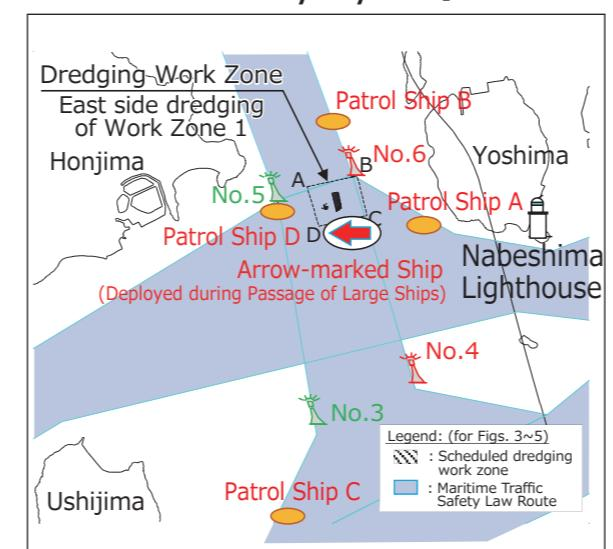

Fig. 3. Positions of Patrol Ships in Work Zone 1
(図3) 1工区警戒船等配置例
- (2) The marine area around the working zones will be stationed with four patrol ships during the duration of the dredging work.
- (3) When a large ship enters the marine area around the working zones, one arrow-marked ship indicating the navigable waters will be deployed, in addition to the four patrol ships. (Figs.3~5)